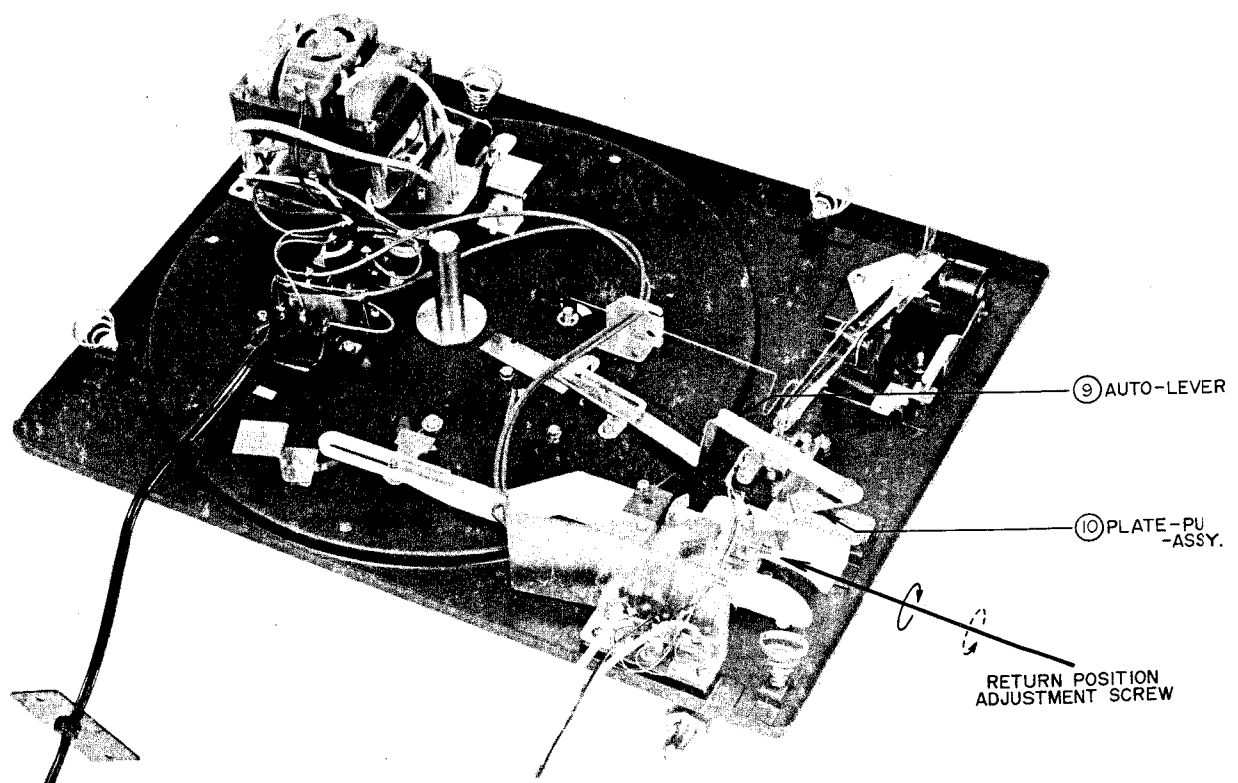
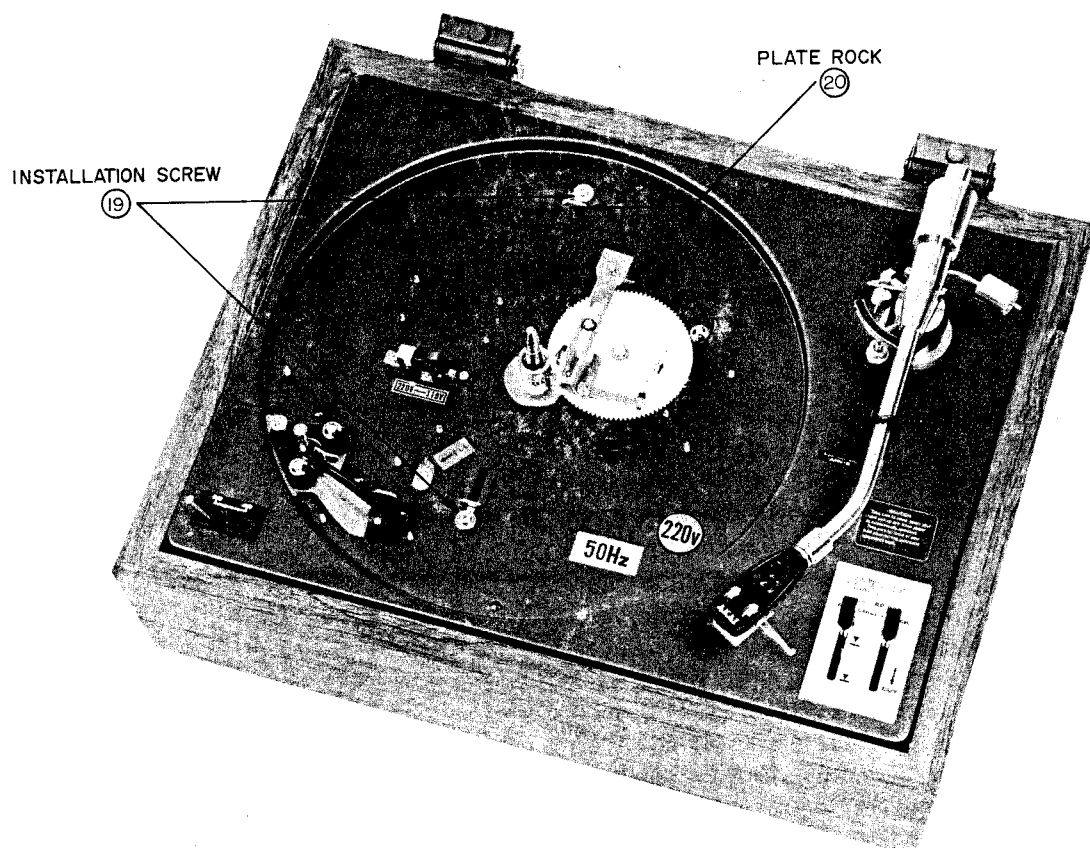

Fig. 14
Fig. 15
(1) RETURN POSITION ADJUSTMENT
Remove turntable and loosen the plate holder metal fitting (PLATE LOCK (20)). This can be accomplished after loosening the two installation screws (19) on the table mount 2 or 3 turns. (Fig. 15) Because this separates the table mount and the cabinet by a considerable degree, the return position adjustment screw (18) located on the reverse side of the PU Arm becomes accessible. Adjust with plus driver (Fig. 14) As shown in Fig. 14 when the adjustment screw is turned to the right (in direction of solid line), the return position is slowed (inside circumference approach) and when the adjustment screw is turned to the left (in direction of broken line), the return position is speeded up (outside circumference approach). (When the adjustment screw is turned 1 revolution, the position of the PU Arm stylus tip is changed by about 8 m/m).